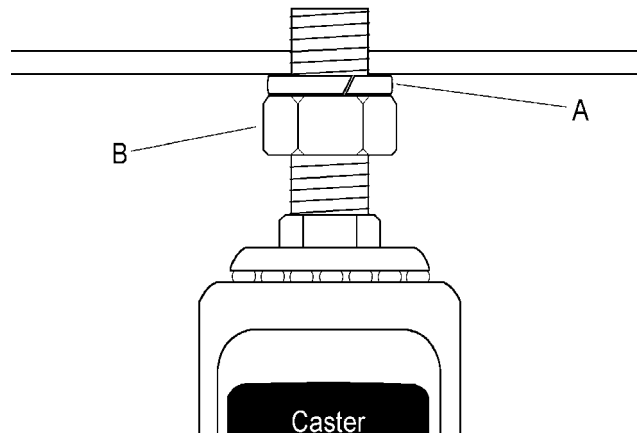

Figure 1
2. Thread the hex nut (B, Fig. 1) onto the caster shaft. Then slide the lock washer (A, Fig. 1) over the caster shaft. Thread the caster shaft into the threaded hole on the underside of the base, turn until snug. Tighten the nut (B, Fig. 1) against the base with a 14mm wrench. This will give the caster proper clearance.